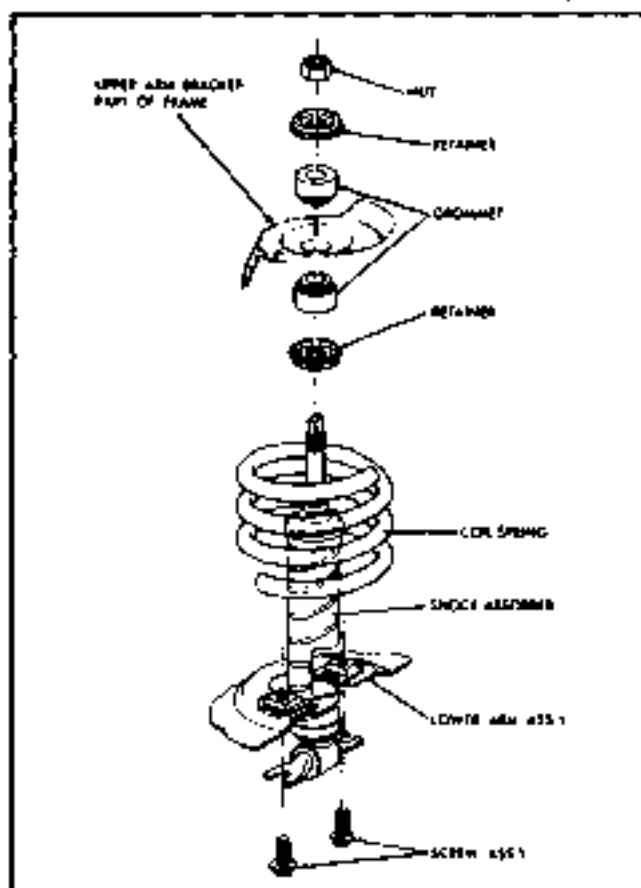

Fig. 3-7 Typical Shock Absorber Installation
2. Remove nut, retainer and grommet which attach upper end of shock absorber to frame bracket (Fig. 3-7).
1. Install shock absorber by reversing the above steps (Fig. 3-7).